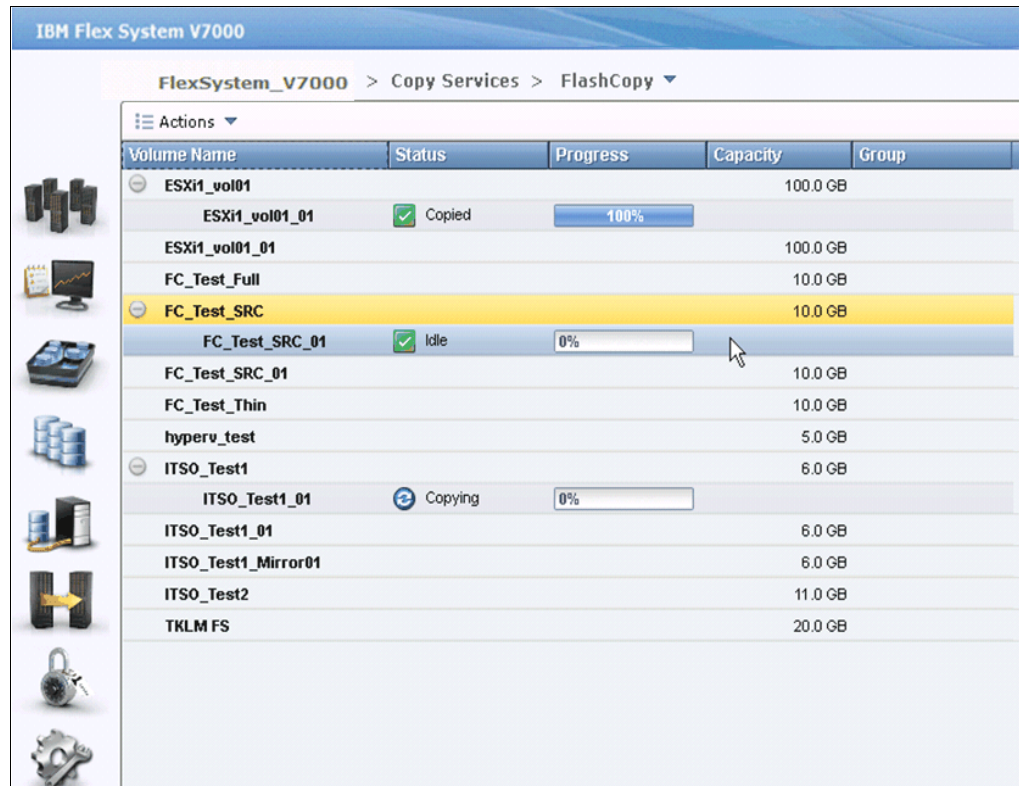

Figure 9-24 New FlashCopy mapping has been created with a new target
- f. Click **Finish** when you make your decision, and the FlashCopy mapping is created on your volume with a new target (Figure 9-24). The status of the newly created FlashCopy mapping is Idle; it could be started, as described in “Starting a FlashCopy mapping” on page 389.